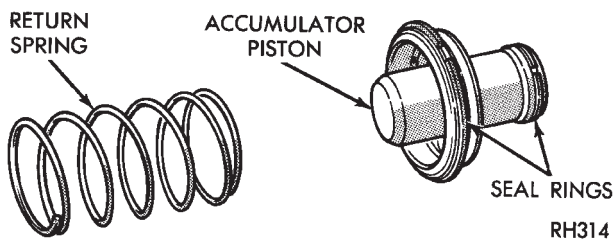

Fig. 11 Accumulator Piston And Spring
- (1) Raise vehicle.
- (2) Remove oil pan and drain fluid.
- (3) Disconnect gearshift and throttle linkage at transmission levers.
- (4) Loosen clamp bolts and remove throttle and manual valve levers from manual valve shaft.
- (5) Disconnect park/neutral position switch wires and remove switch and switch seal.
- (6) Remove valve body oil filter.
- (7) Remove valve body attaching screws. Lower valve body slightly and remove accumulator piston and spring (Fig. 11). Rotate valve body down and away from case. Pull it forward to disengage park rod and remove valve body.